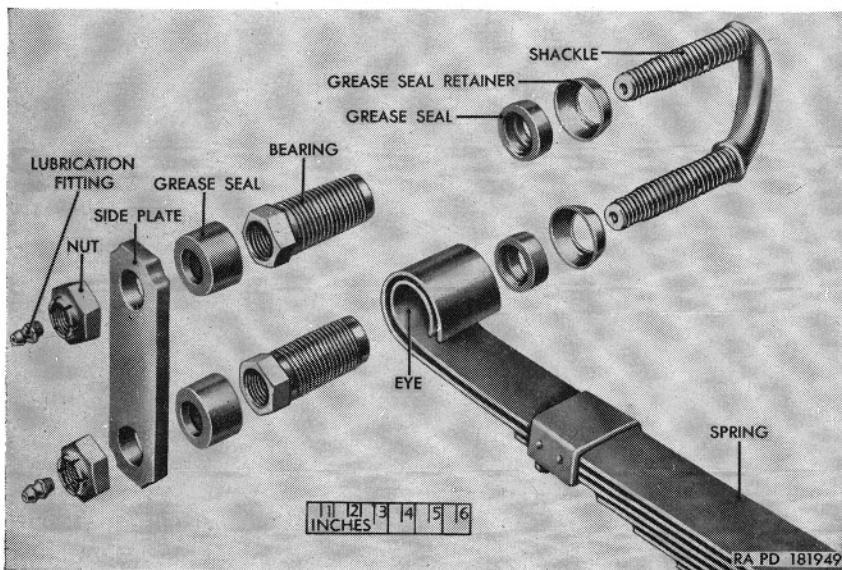

Figure 41.1. (Added) Spring shackle and spring shackle end of spring M170—exploded view.
a. *Spring Shackles Removal* (fig. 41.1).
c. Spring Shackle Installation (fig. 41.1).
- (1) Slip a grease seal retainer and a grease seal in the order named over each of the threaded parts of the shackle. Start the small inside diameter of the retainers on the shackle.
- (2) Insert the ends of the shackle into the inner side of the spring assembly and the inner side of the frame rail (for front spring) or the spring bracket (for rear spring), and push the shackle in until the ends are almost protruding from the spring eye and frame side rail or spring bracket.
- (3) Insert the bushing-type shackle bearings into the spring eye and frame side rail or bracket, and start the bearings onto the shackle before the bearings start threading into the eye or frame side rail or spring bracket. Take up on both bearings equally until they are tight. Back off the lower bearing about one thirty-second of an inch ($\frac{1}{3}$ of a turn).
- (4) Place a grease seal over the hex-head of each bearing. Slide the side plate over the ends of the shackle and secure with two nuts. Install the lubrication fittings in the end of the shackle.